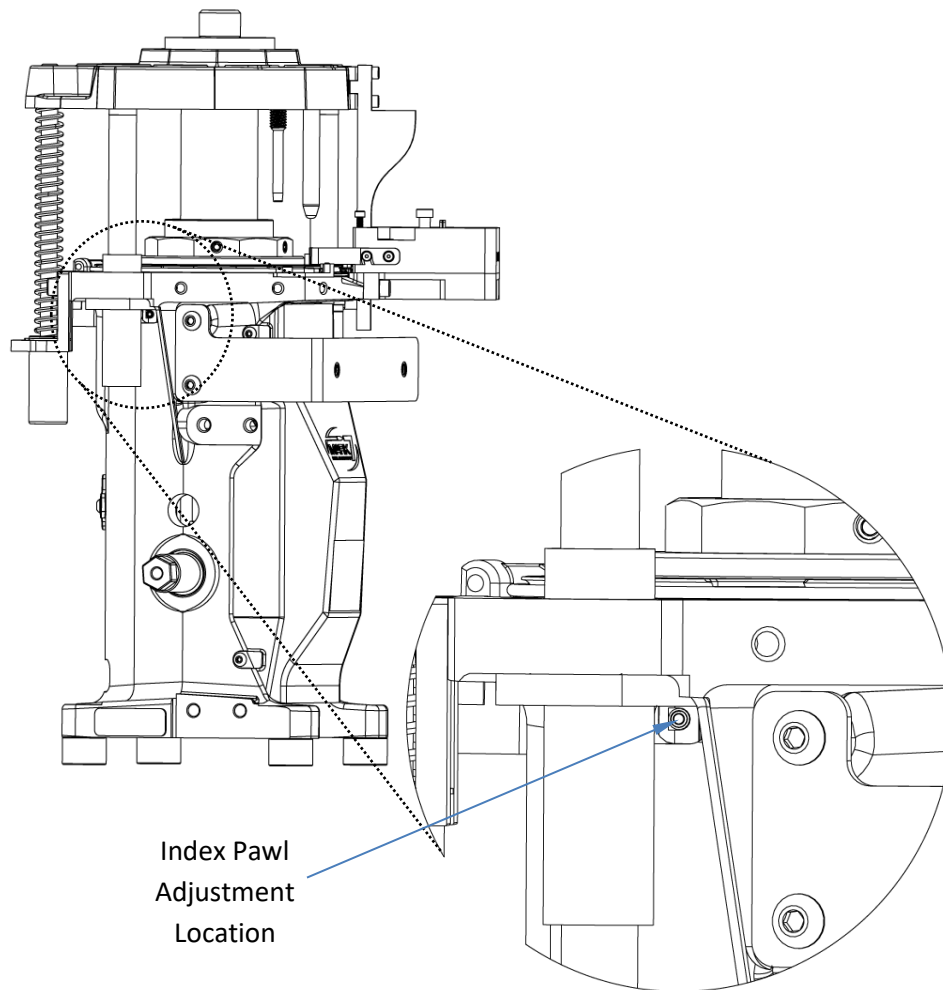

Figure 26: Index Pawl Adjustment Location (left side of machine)
- The Index Pawl is factory set to give proper indexing of the shell plate. Adjustment of the Index Pawl should only be made if the shell plate is not lining up properly with the alignment pins. If adjustment is needed, insert a 5/64" hex wrench into the adjustment screw located inside the access hole on the upper left-hand side of the press. See figure #24. Turning the screw clockwise will move the shell plate in a counterclockwise direction. Turning the screw counterclockwise will move the shell plate in a clockwise direction. Turn the screw about a 1/8 turn at a time and cycle the press to check for alignment of the plate and alignment pins. Make this adjustment with no cases on the shell plate. See Figure 26. If indexing issues continue after adjusting the index pawl, please contact customer service for guidance.